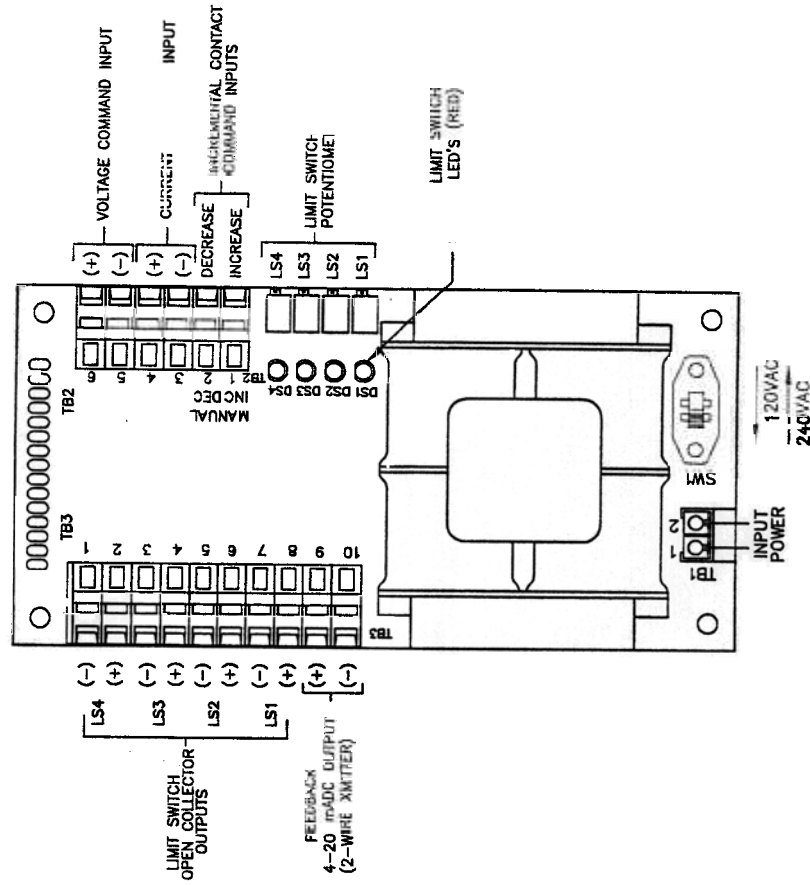

FIGURE 3A UPPER PC BOARD
- 2.7 AC POWER: Input Power conductors connect to TB1 which is a blue colored, two point terminal board located on the front of the upper PC board – see Figures 3A & 4A. TB1 has spring-clamp type terminals with front tabs which are pushed down to insert wires. Maximum wire size is 14 AWG (2.1 mm²). Conductor insulation strip length is 0.22" (5.6 mm).
2.8.1 TB2 is used for Command Input signals. It is located on the right side of the upper PC Board – see Figure 3A.
TB3 is used for Feedback Output signals. It is on the left side of the upper PC Board – see Figure 3A.
3.2 INPUT POWER: Slide Switch SW1 selects the Line (Operating) power. Left position is for 120 VAC, right position is for 240 VAC. Slide Switch SW1 is located to the right of Power Terminal Board TB1 on the front of the Upper PC Board – see Figure 3A.